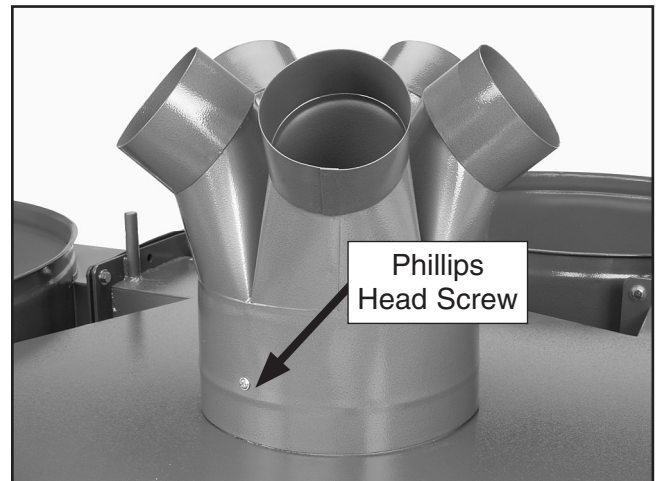

**Figure 16.** Collector mounted to impeller housing.
- Use eight  $\frac{5}{16}$ "-18 x 1" hex bolts, (16)  $\frac{5}{16}$ " flat washers, and eight  $\frac{5}{16}$ "-18 hex nuts to attach each collector to the impeller housing with a rubber gasket between the components, as shown in **Figure 16**.